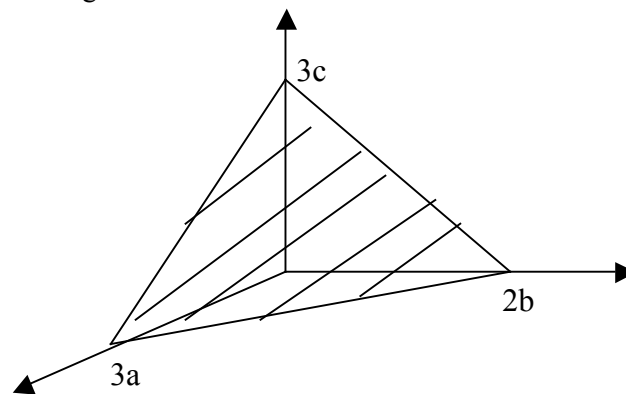

Figure 1.10: Plane used to derive miller indices
- (i) Find the intercepts on the axes in terms of the lattice parameters, **a, b, and c**. In the case of a cubic lattice, $\mathbf{a} = \mathbf{b} = \mathbf{c}$. Let these intercepts be $3\mathbf{a}$, $2\mathbf{b}$, $3\mathbf{c}$, Fig. 1.10